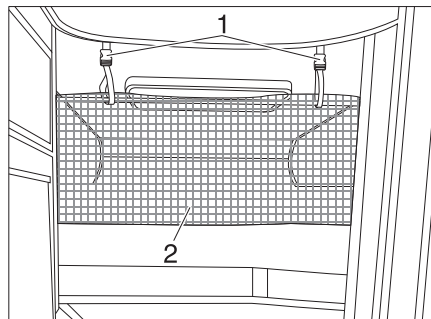

Fig. 147 Safety net
- Fasten the retaining straps (Fig. 147,1) to the holders on the ceiling (Fig. 147,2).